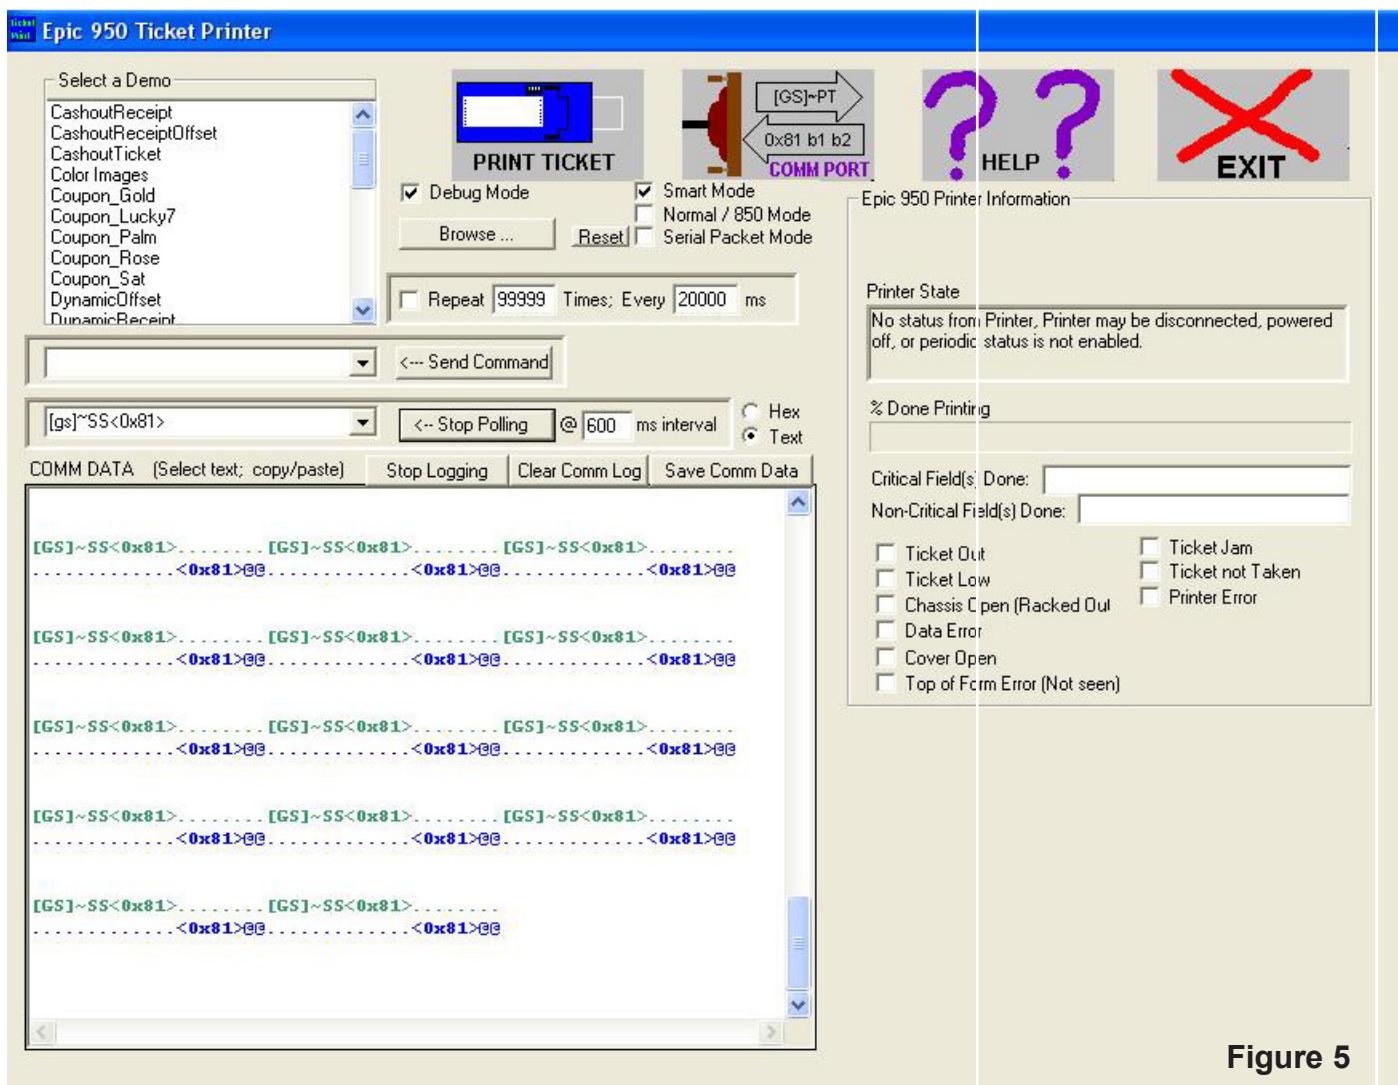

Figure 5
D) If the printer is connected to a PC via RS232 and you are running program “Epic 950TM Ticket Printer”, then after proper communication settings, tick to “Debug Mode” and click the “Start Polling” which changes to “Stop Polling” and PC starts communication with the printer, as shown in Figure 5.